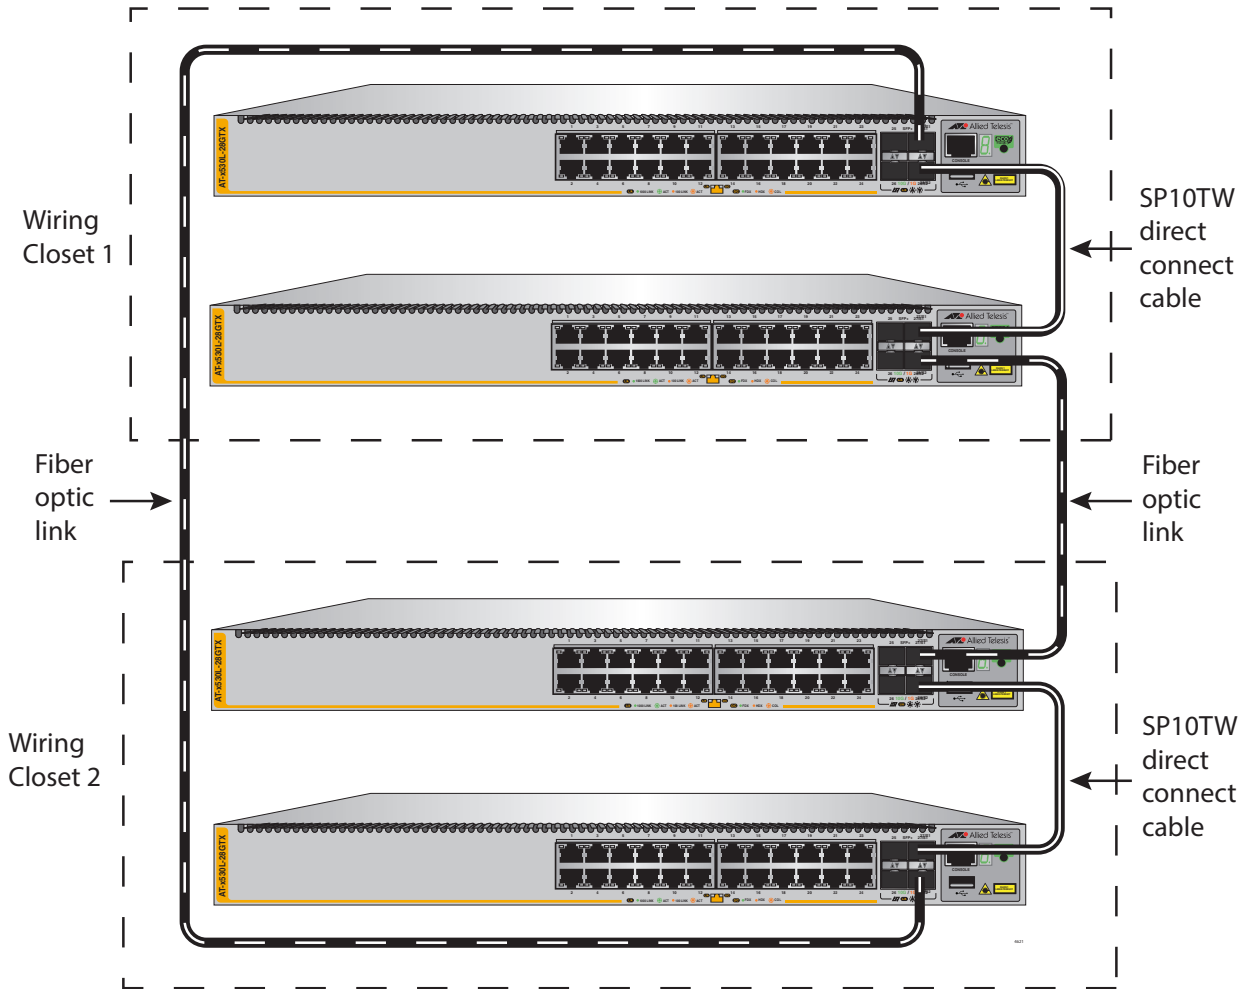

Figure 27. Valid 10Gbps Stack Trunk with Both Fiber Optic and SP10TW Direct Connect Cables
- ❑ A stack trunk can have fiber optic and SP10TW direct connect cables in the same stack. See Figure 27 on page 70.
10Gbps stack trunks can have a combination of fiber optic transceivers and SP10TW direct attach cables. Figure 27 shows an example of a 10Gbps stack trunk with both fiber optic and SP10TW direct connect cables.